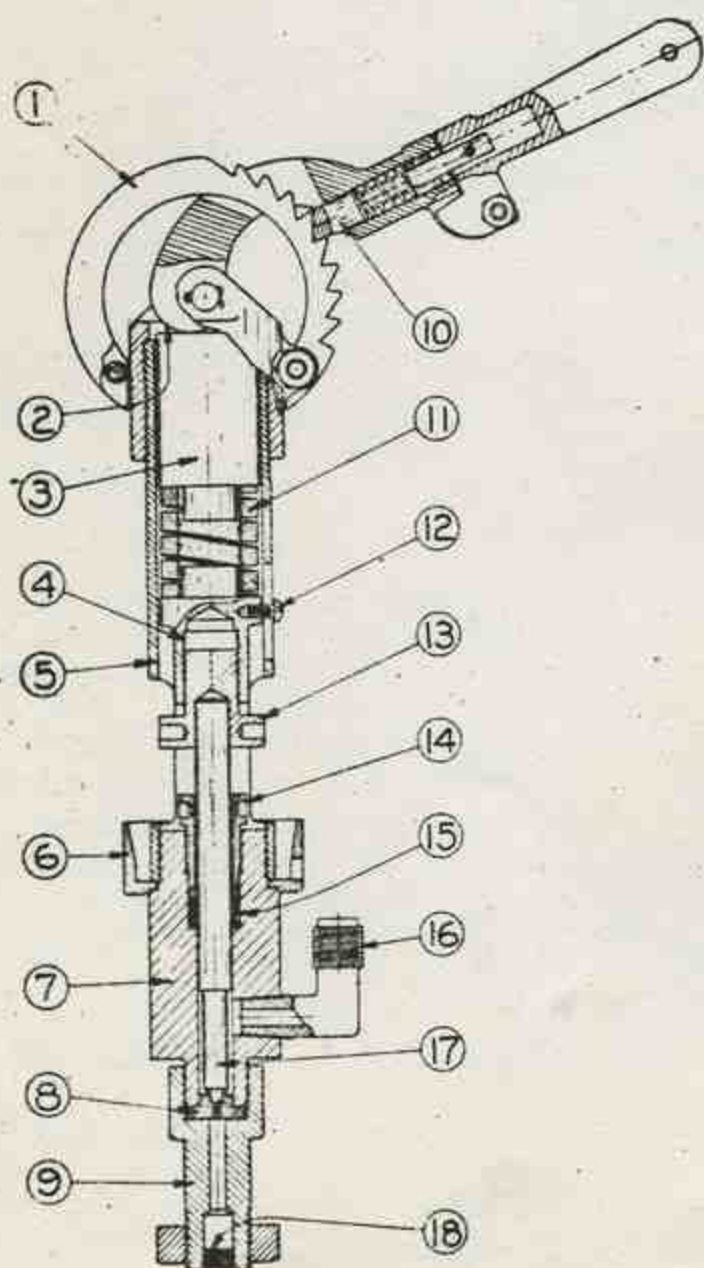

FIG. 0-2
Referring to Fig. 0-2 the regulating valve is built around valve body (7). The hardened steel valve seat (8) is held between the body and adapter stud (9) which screws on the bottom of the body and through which passage (18) allows the by-passed fuel to escape. Fuel inlet elbow (16) is threaded into the side of the body, supplying fuel to the annular space around the reduced section of the valve stem (17). The top of the body is bored to receive stem packing (15) and packing gland (14). Screwed to the top of the body is relief valve spring cage (5). This cage is screwed down upon the drain cup holding the latter in place against a shoulder on the body.